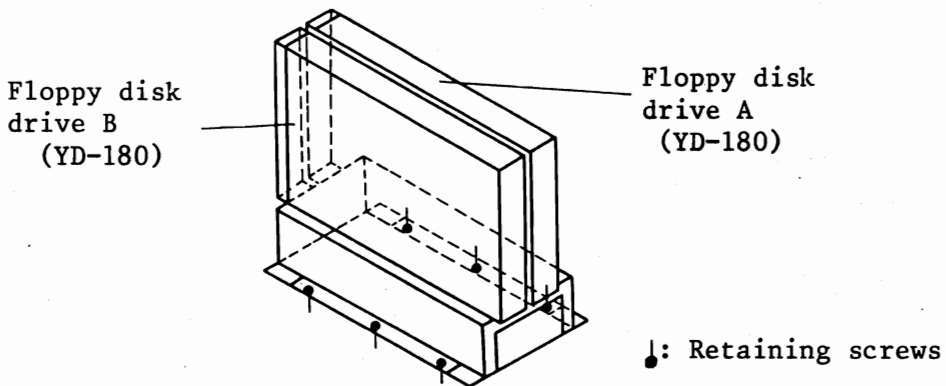

Fig. 5.5.1
(1) Replacement
- ① Insert shipping sheet 8" into YD-180.
- ② Remove outer cover (see (1) or paragraph 3.4.1).
- ③ Take out SFD signal cable from tie band.
- ④ Disconnect SFD signal cable and DC cable from 8" FDD-I/F PCB.
- ⑤ Disconnect DC cable from YD-180 and also fan DC cable.
- ⑥ Remove six retaining screws specified in Fig. 5.5.1.